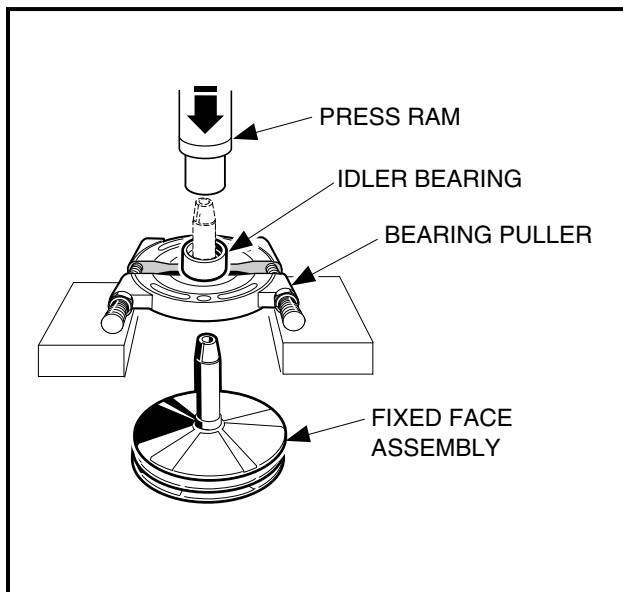

Figure 17-10 Remove Idler Bearing
8. Remove idler bearing if necessary. Use a press to remove the bearing (**Figure 17-10, Page 17-9**). **See following NOTE.**